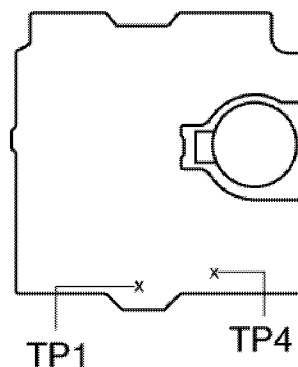
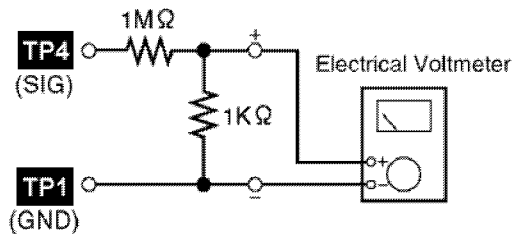

Fig. 9
Fig. 12
1. Connect a frequency indicator. (Cf. Fig. 12)
1. Connect an electrical voltmeter. (Cf. Fig. 9) (Cf. Fig. 12)